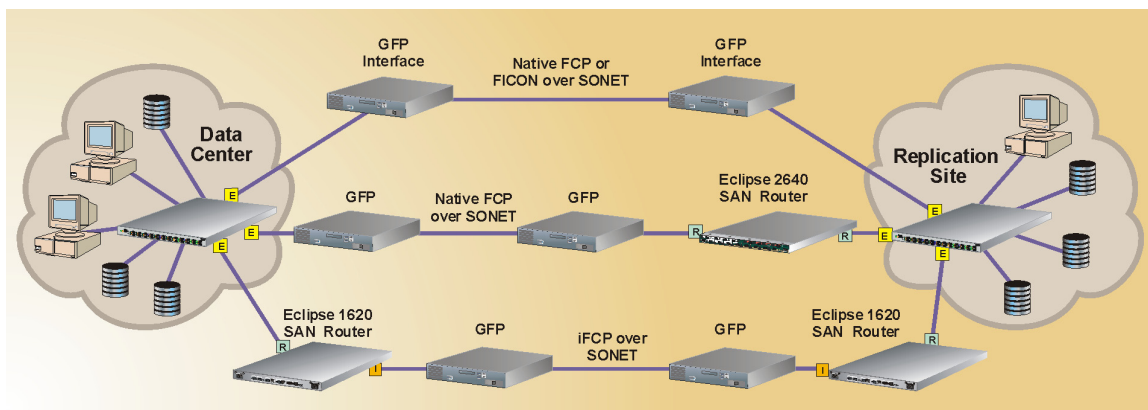

Figure 4-10 SONET Extended-Distance Connectivity
Generic Framing Procedure (GFP) is a protocol-independent SONET and SDH standard that defines a mapping scheme for storage protocols such as native FCP, FICON, and iFCP. The standard includes a forward error-correction scheme that enables low bit-error rates critical for storage connectivity. Additionally, the protocol mapping to SONET or SDH requires little overhead and has minimal impact on latency and throughput. GFP is deployed with virtual concatenation (VCAT), a standard that increases bandwidth efficiency by flexibly extending bandwidth allocation in 50-Mbps increments. This extends the bandwidth range from 50 Mbps to full Fibre Channel rates. To support storage extension over long distances, GFP provides buffering and flow control to ensure high throughput without the need for Fibre Channel BB_Credit buffering. Figure 4-10 illustrates multiple extended-distance connections through a SONET interface.
- **Native FCP or FICON (unrouted)** - The top data path in Figure 4-10 illustrates native FCP or FICON extended-distance connectivity through an unrouted SONET interface. GFP interfaces provide required link buffering and flow control. The stretched E_Port connection is vulnerable to disruptions caused by events at each site or to disruptions caused by problems with the extended-distance SONET link.
- **Native FCP (routed)** - The middle data path in Figure 4-10 illustrates native FCP extended-distance connectivity through a routed SONET interface. GFP interfaces provide required link buffering and flow control. A single Eclipse 2640 SAN router at one end of the link provides R_Port connectivity and SAN isolation (not intelligent port connectivity or protocol conversion). The routed SAN connection ensures disruptions at one site are isolated and not allowed to propagate to other locations. This connection does not support FICON operation.
- **iFCP (routed)** - The bottom data path in Figure 4-10 illustrates iFCP extended-distance connectivity through a routed SONET interface. GFP interfaces provide SONET connectivity but are not required for link buffering and flow control. Eclipse 1620 SAN routers at each end of the link provide intelligent port connectivity and iFCP protocol conversion. The routed iSAN connection ensures disruptions at one site are isolated and not allowed to propagate to other locations. This connection does not support native FCP or FICON operation.